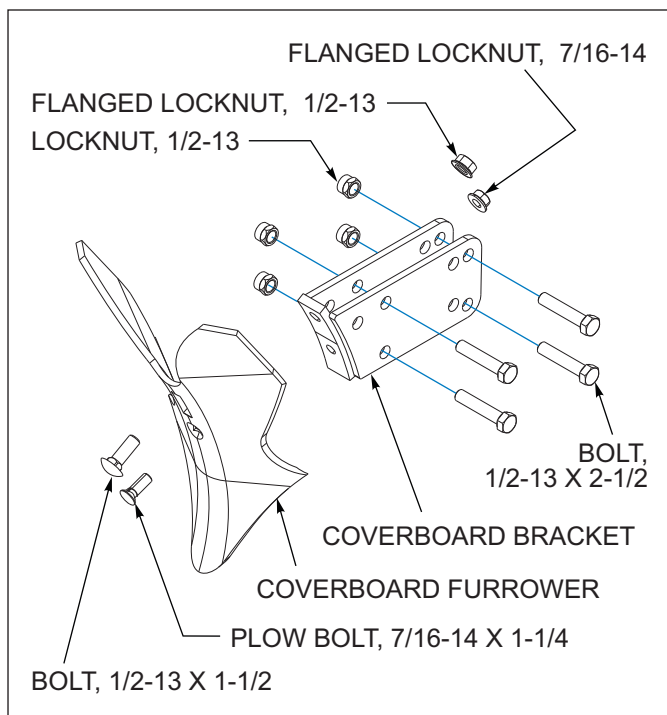

Figure 3-7: Coverboard Installation
2. Tighten the 7/16-14 flange nut to the 7/16-14 x 1-1/4 plow bolt before tightening the 1/2-13 locknut to the 1/2-13 x 1-1/2 roundhead bolt. This is to ensure that the point of the coverboard furrower is pulled tightly against the bracket. Make sure that the plow bolt head is flush with the surface of the coverboard furrower. (See Figure 3-7.) This hardware should be tightened now.